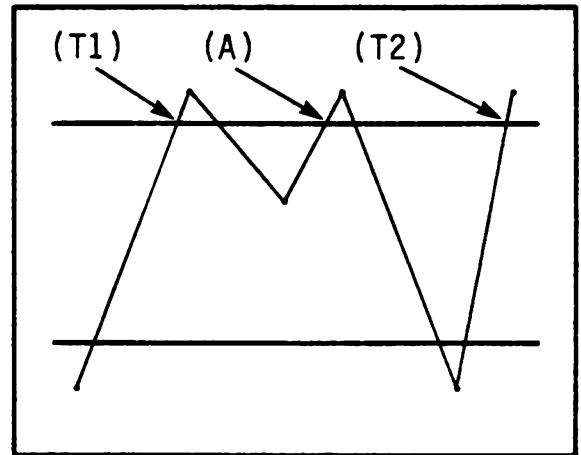

Figure 8-34
Figure 8-34: Once again the signal qualifies as a trigger at point (T1). However, a trigger will not occur at point (A) because the second positive slope did not start below the lower threshold. A trigger will occur at point (T2) because the third positive slope began below the lower threshold.